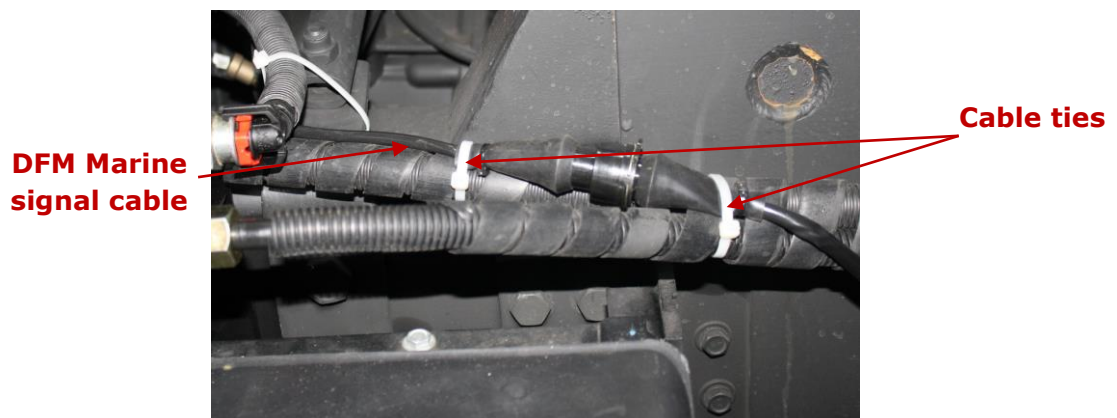

Figure 25 — Laying DFM Marine signal cable
- 5) It is **strongly recommended** to lay DFM connection cable together with standard electrical vehicle wiring with mandatory cable ties fixing of every 50 cm, at a positive ambient temperature (see figure 25).